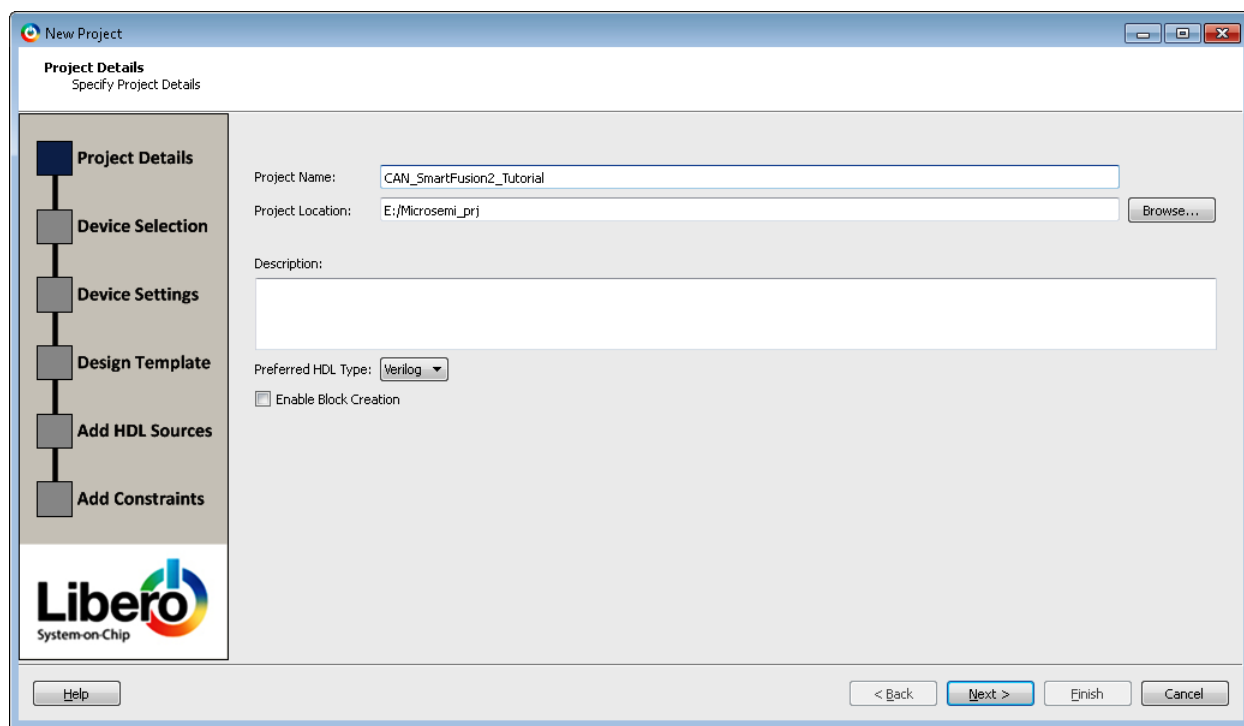

Figure 3 • New Project Details Window
2. From the **Project** menu, select **New Project**. In the **Project Details** window, enter the information displayed in Figure 3.